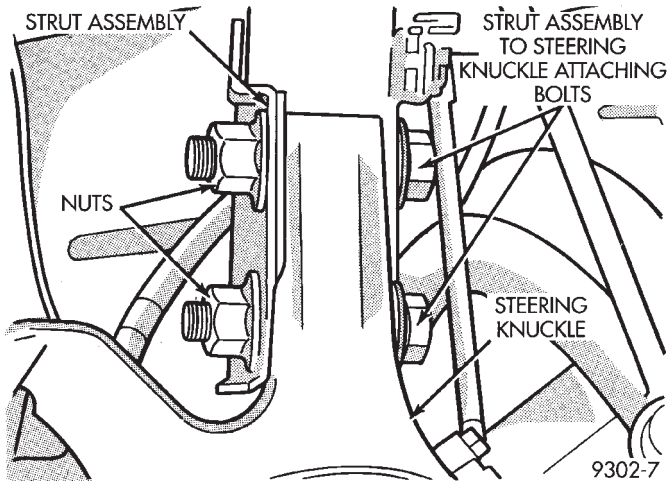
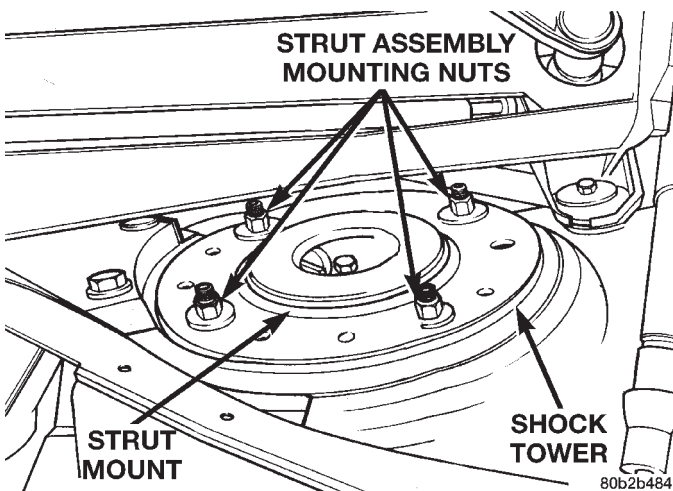

**Fig. 14 Strut Assembly To Steering Knuckle Attaching Bolts**
**Fig. 15 Strut Assembly Mounting**
(8) Remove the 2 strut assembly to steering knuckle attaching bolts (Fig. 14).
(9) Remove the 4 strut assembly upper mount to strut tower mounting nut and washer assemblies (Fig. 15).
(10) Remove the strut assembly from the vehicle for inspection and or disassembly.
(1) Install front strut assembly into shock tower. Install the 4 strut assembly upper mount to shock tower attaching nuts (Fig. 15). Tighten the 4 strut mount to strut tower attaching nuts to a torque of 37 N·m (28 ft. lbs.) torque.
(2) Position steering knuckle into strut assembly.
(3) Install the strut assembly to steering knuckle attaching bolts (Fig. 14). Install nuts on attaching bolts. Tighten the strut assembly clevis to steering knuckle attaching bolt nuts to a torque of 203 N·m (150 ft. lbs.).
(4) Install braking disc back on front hub and bearing assembly. Install front brake caliper assem-